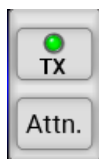

Figure 3: Action Buttons
By default, the Mute (TX) button is on top, and the Attenuation button is on the bottom. See Figure 3. The button selection may be customized by the user. See the **Config Buttons** section.